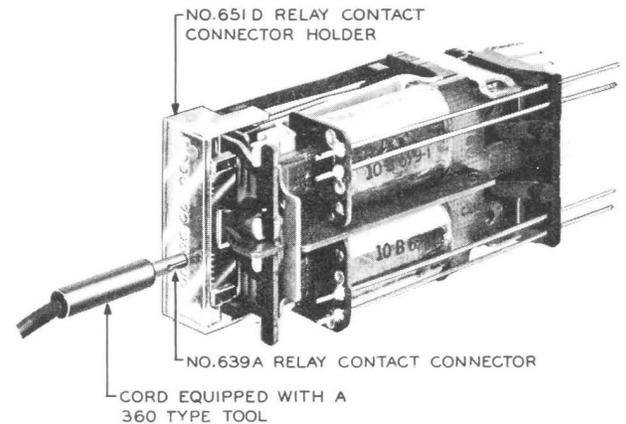

Fig. 15 — Connecting to Fixed Contact of the AK-type Relays (Wire Spring)
3.04 Connections to Fixed Contacts of AK-type Relays (Wire Spring) From Apparatus Side of Frame (Front of Frame): Fig. 15